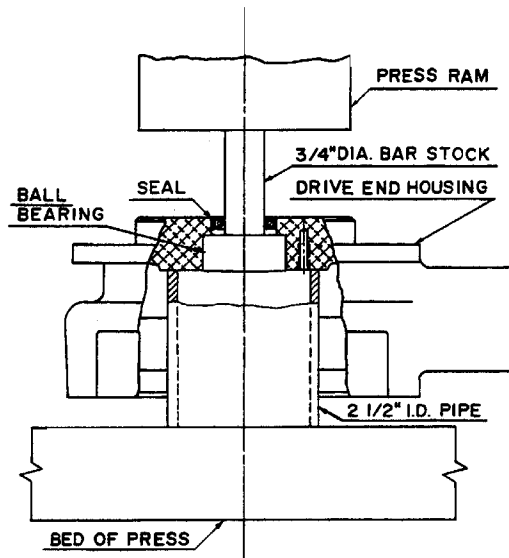

FIGURE 19
2. Use a 3/4 inch diameter length of bar stock against the bearing inner race to press bearing (2) from housing. Discard the bearing. (See Figure 19.)